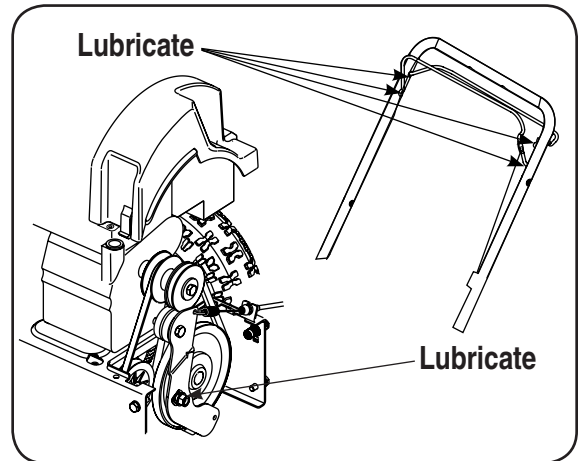

Figure 10
1. Lubricate pivot points on the auger control and drive control with a light engine oil once a season, see Figure 10.